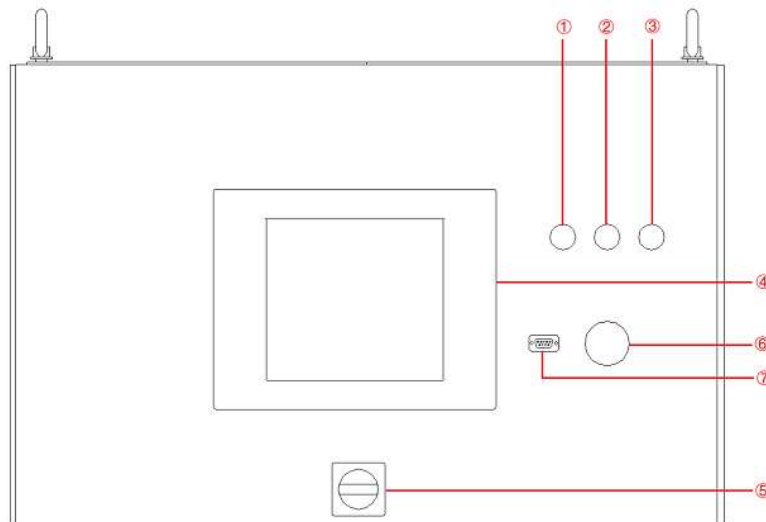

Figure 3-9 Front panel
Turn the power knob counterclockwise (Figure 3-9⑤).